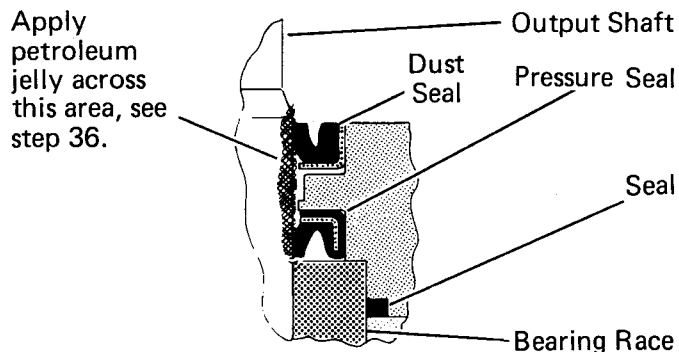

Figure 22
**32** Install dust seal in flange, see Fig. 22. Press the dust seal into place carefully. To eliminate damage to rubber portion or distortion of metal container, use a tool (flat-round face 1-3/8/1-5/8 dia.) which provides proper guiding and positioning.
shaft. Then, lubricate space between dust seal and pressure seal, as well as lips of both seals, see Fig. 22. Install flange. Rotate flange slowly while pushing down over shaft. Be careful not to invert or damage the seals.